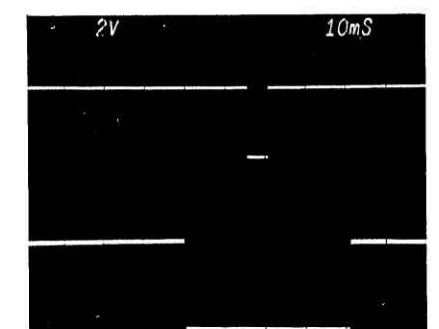

Figure 10-1. UPPER TRACE - the display enable gating pulse at pin 8 of IC105. LOWER TRACE - the counter input gating pulse at pin 12 of IC115.
5. When checking for Figures 10-1 and 10-2, use a 10/1 scope probe.
6. IC115 Pin 12, IC105A Pin 6 and IC105B Pin 8 outputs are all 12.2Hz rectangular waves, however they have different duty cycles (See Figures 10-1 and 10-2).